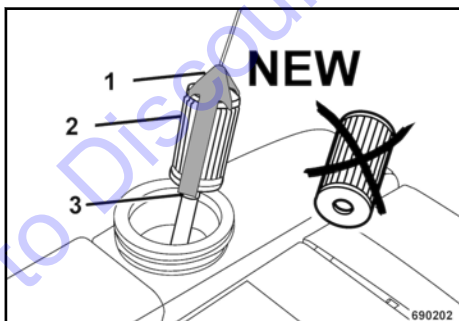

Fig. 64
Pull the holder (1) ↗ Fig. 64 with the fuel filter (2) by the cord out of the tank.